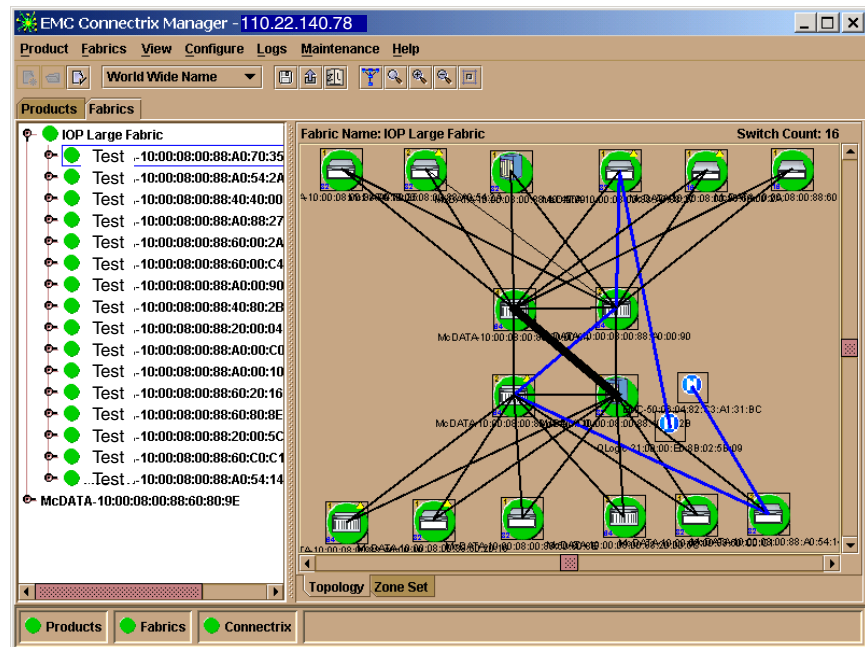

Figure 6-10 Show Route Window, Showing Routes
7. Click **OK**. If all the switches/directors in the path are managed by the same Connectrix service processor, a window (Figure 6-10) displays the routes between the two devices in blue.